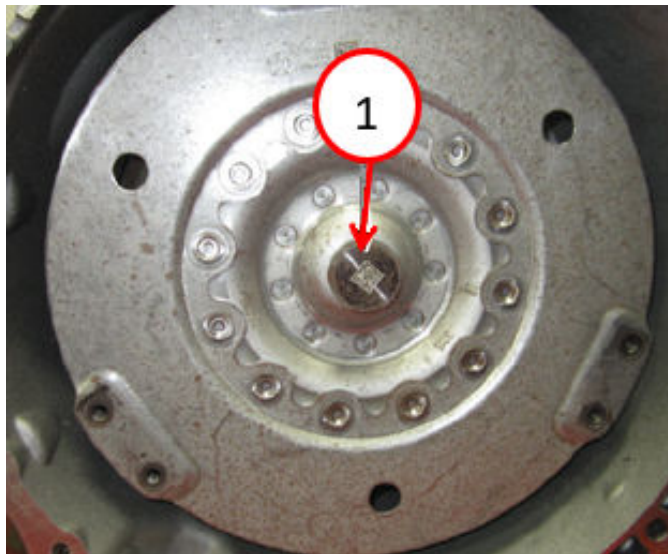

Fig. 2
2. Remove the torque converter Fig. 2.